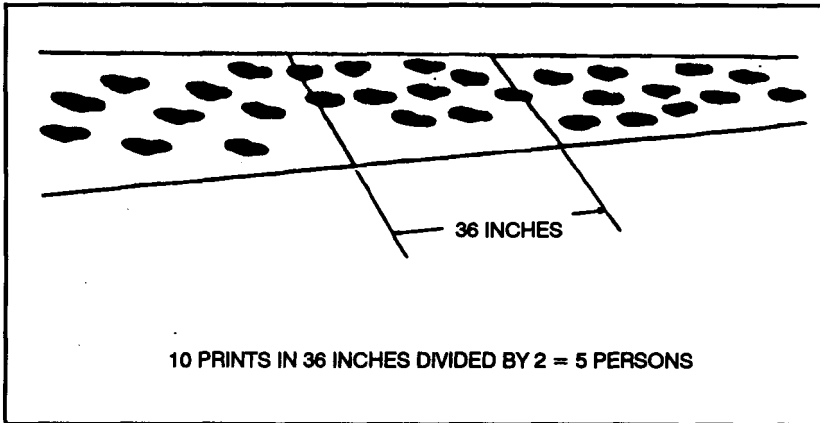

Figure 8-3. 36-inch box method.
(2) The sniper may also use the the 36-inch box method (Figure 8-3) if key prints are not evident. To use the 36-inch box method, the sniper uses the edges of the road or trail as the sides of the box. He measures a cross section of the area 36 inches long, counting each indentation in the box and dividing by two. This method gives a close estimate of the number of individuals who made the prints; however, this system is not as accurate as the stride measurement.